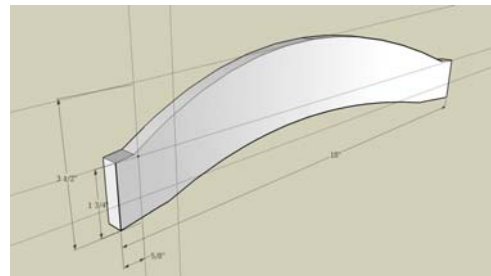

Figure 2. Curved (Bent) Chair Slat with Arched Profile
Curved chair slats are more complicated and tedious to draw in Sketchup if they include arched profiles, as in Figure 2, because these require drawing compound curves. I cannot draw an arc in the x and z dimensions (e.g., red and blue) while following a surface that is curved in the third (e.g., green) dimension.
10. Explode both the group made from the “block” and the curved slat. It should now be possible to select and delete unwanted lines and faces while keeping the parts you do want, until you get something like Figure 2.